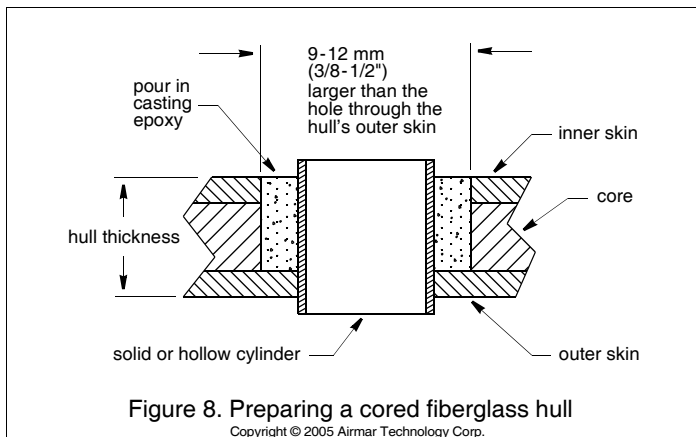

Figure 8. Preparing a cored fiberglass hull
2. Using the 95mm or 3-3/4" hole saw, cut a hole from outside the hull through the *outer* skin only (see Figure 8). It may be necessary to enlarge the hole slightly using a grinder.